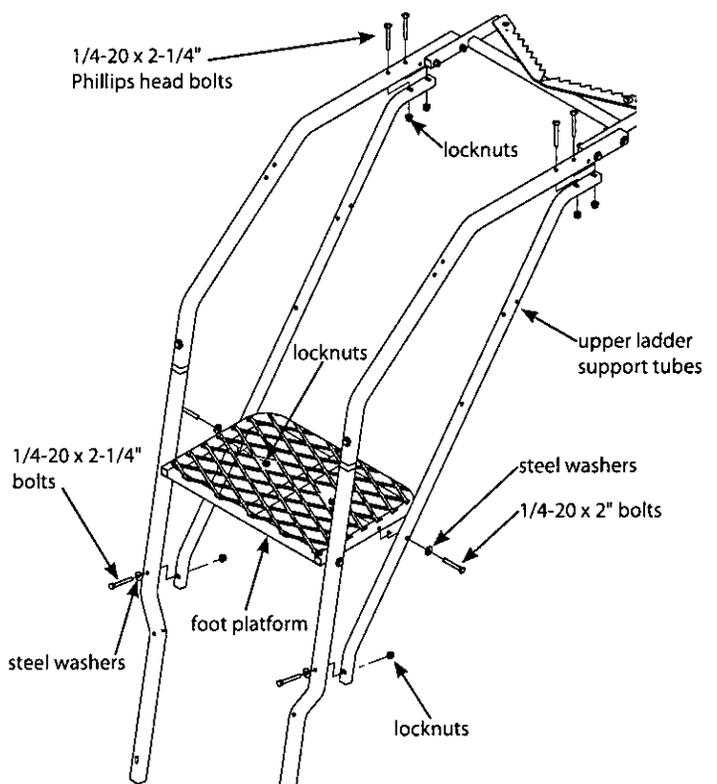

Figure 3
4. a. Attach the 2-hole (slot) end of upper ladder support tubes (10336) to the bottom side of main side rails using (4) provided 1/4-20 x 2-1/4" Phillips head bolts and locknuts. **SEE FIGURE 3.**
- b. Attach the 1-hole (slot) end of upper ladder support tubes to the backside of flared rails using (2) provided 1/4-20 x 2-1/4" bolts, washers and locknuts. **SEE FIGURE 3.**
- c. Attach the foot platform to the upper ladder support tubes using (2) provided 1/4-20 x 2" bolts, locknuts and steel washers. **SEE FIGURE 3.**